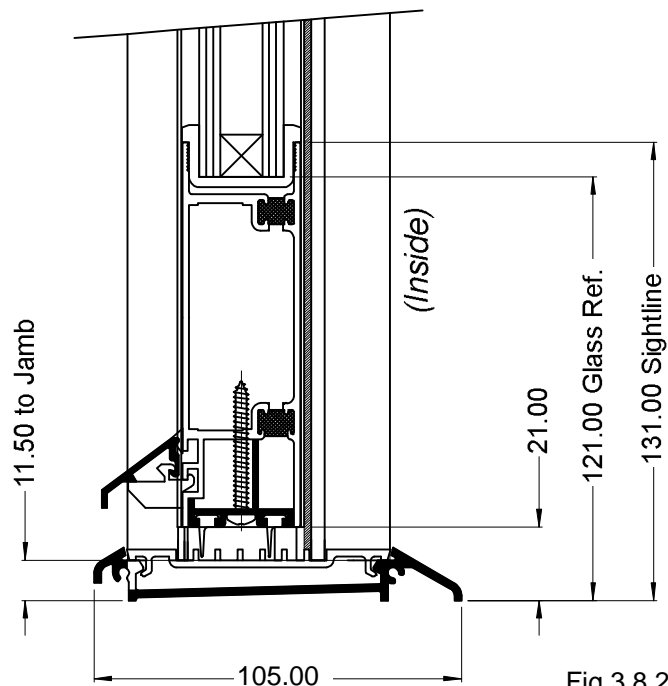

Fig.3.8.22
- Apply a liberal bead of sealant along full length of inner edge in bottom rail pocket. Check orientation of flipper track is correct (Refer to fig.3.8.22.) and slide track up into the rail pocket. This sealant should give a water proof seal with any excess sealant being cleaned off.